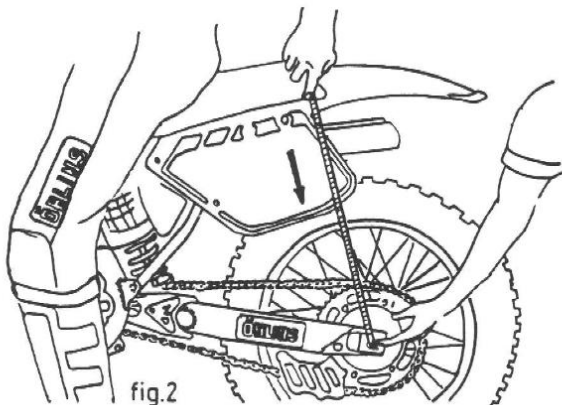

fig.2
3. Sit on the bike assuming normal riding position with the feet barely touching the ground. Have somebody to take measurement between the same points as before according to fig. 2. The difference between the two measurements ought to be 95mm $\pm$ 5mm.